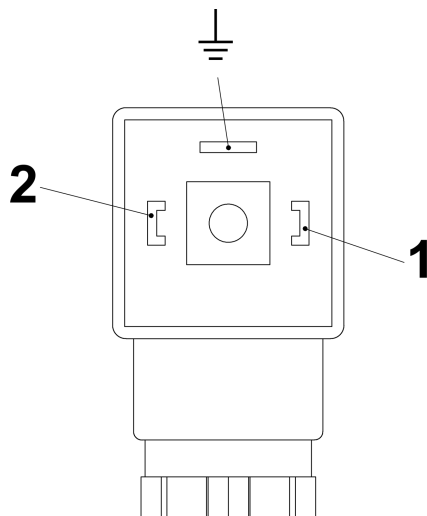
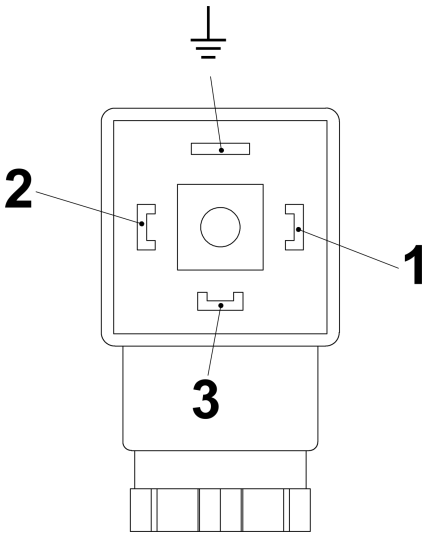

Fig. 27: Pin assignment, plug socket, normally-open contact (SG-30 with connector in compliance with EN175301-803)
Fig. 28: Pin assignment, plug socket, change-over contact (SG-30 with connector in compliance with EN175301-803)
6. ➤ Make the connections as shown in the connection diagram (Fig. 27 and Fig. 28) an